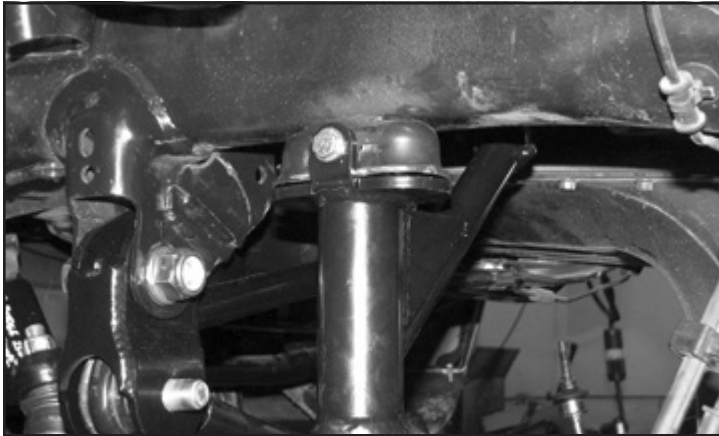

FIGURE 29 - STEP 34
34. Locate a 5/16"-18 x 2-1/2" bolt, nut and washers. Using this bolt, secure the bump stop to the factory bump stop mount and torque to 29 ft-lbs. **SEE FIGURE 29**